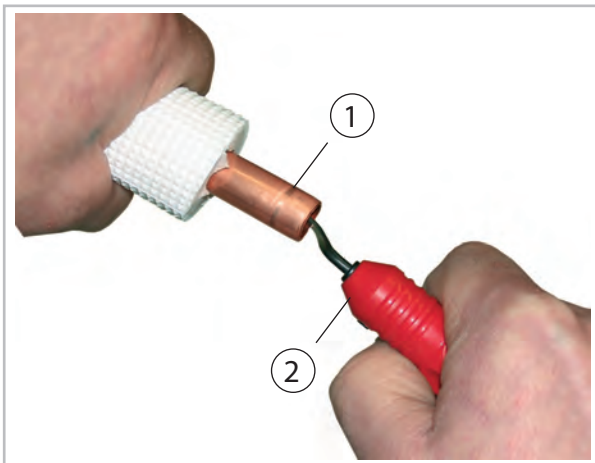
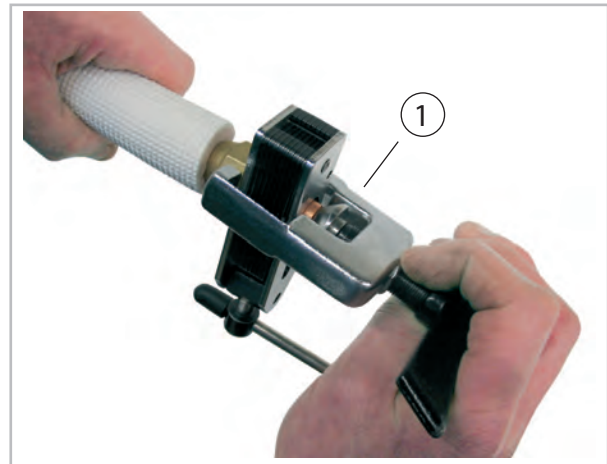

Fig. 34: Deburring the refrigerant piping
Fig. 35: Flanging the refrigerant piping
8. ➤ Prepare the laid refrigerant pipings as shown below (Fig. 34 and Fig. 35).